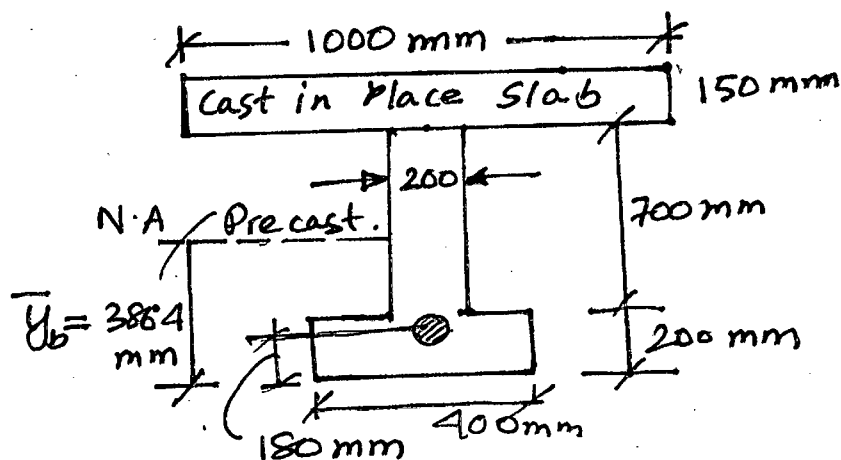

Fig. 3
4. Fig. 3 shows the midsection of a composite beam. The precast section is an inverted T-section 900 mm in depth and is post-tensioned with an initial force of 2800 kN which reduces to 2450 kN after losses. The beam is simply supported on 24 m span. The top slab 150×1000 mm is cast in place after erection of the precast element. After hardening of the floor slab, the composite section has to carry a maximum live load moment of 600 kN-m and superimposed DL moment of 150 kN-m at midspan. Compute the stresses at midspan section at various stages. Given:  $f'_c = 49 \text{ MPa}$ ,  $A_{ps} = 2580 \text{ mm}^2$ ,  $\gamma_{con} = 25 \text{ kN/m}^3$ . (23  $\frac{1}{3}$ )